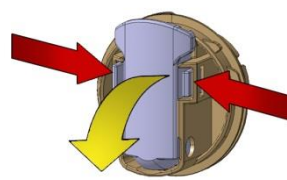

Fig. 3
- Simultaneously extract the top part of the lever as shown by the yellow arrow in Fig. 3.